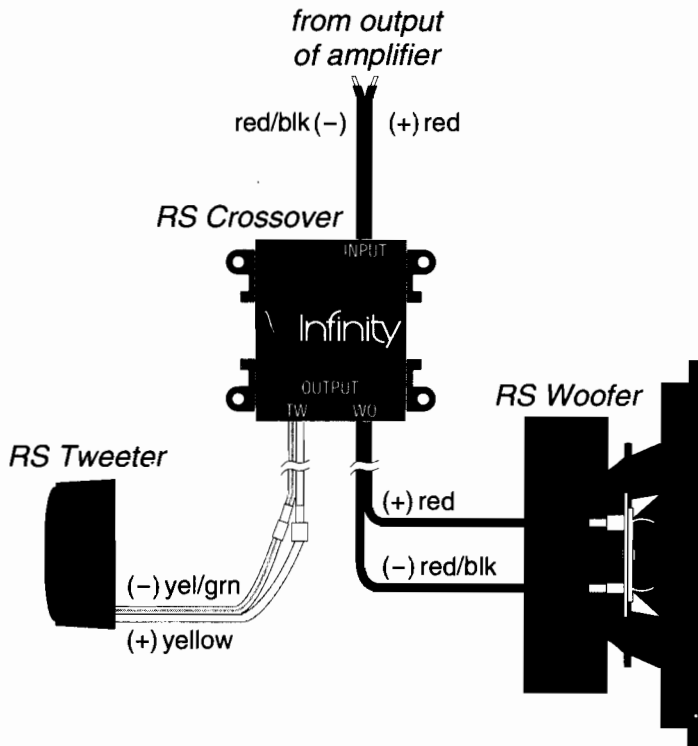

Figure 1. Wiring diagram shows an RS Component System connected to an amplifier. (For clarity, only one channel is shown).
1. Studying the wiring diagram shown in Figure 1.